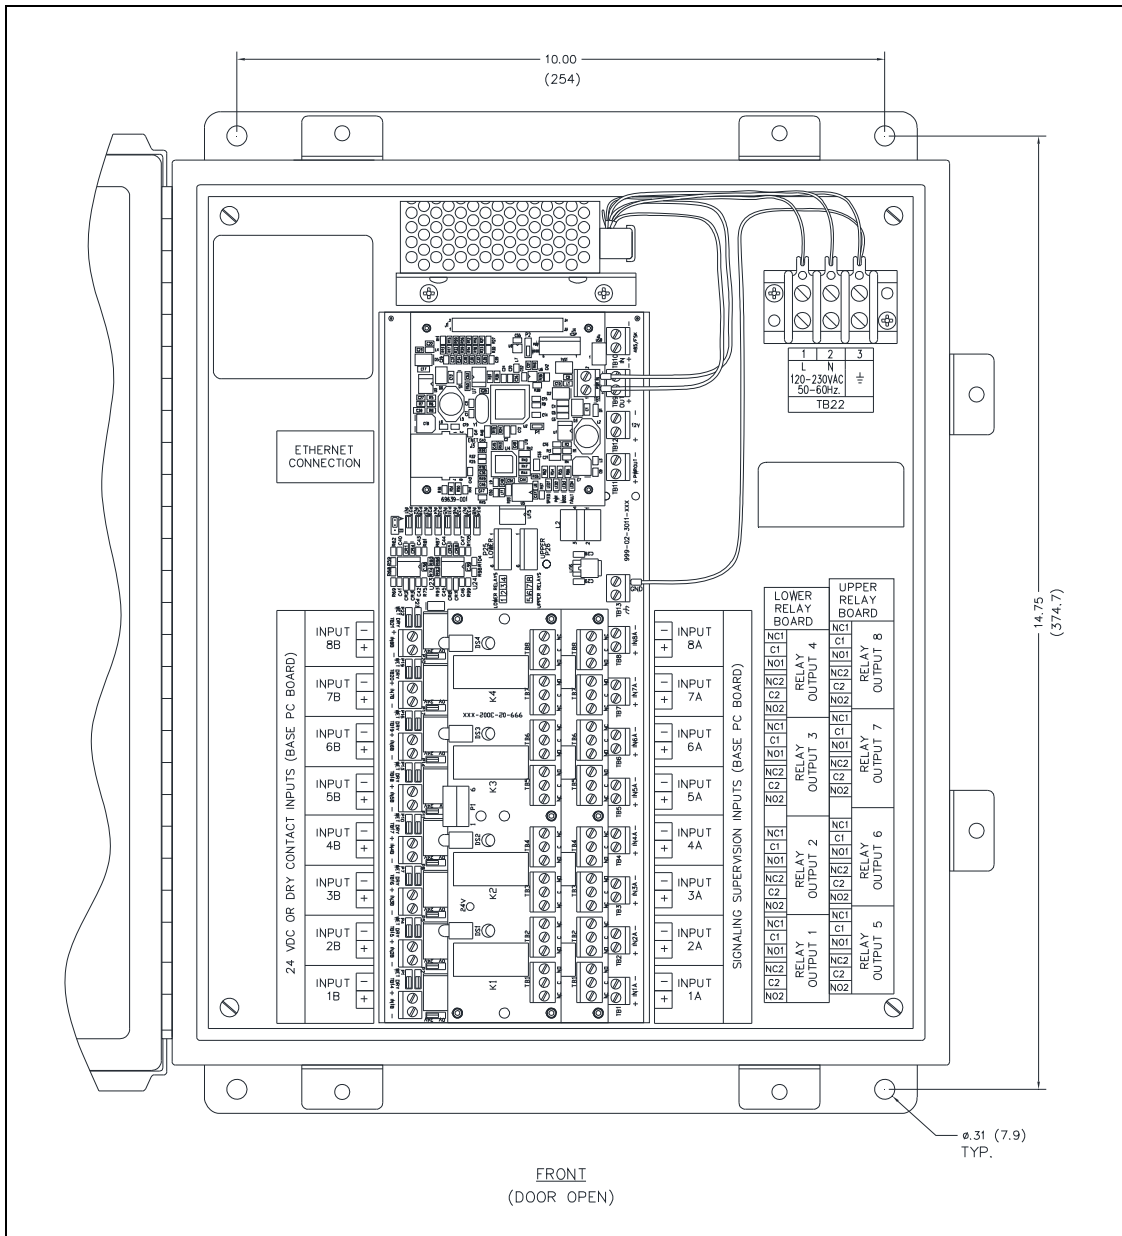

Figure 1. Model 379-003 E3 IP MRM Station (Interior View)
The No. 030-02-0099-008 E3 IP MRM has four components (see Figure 1):
2. Mount the enclosure to a suitable surface using appropriate (customer-supplied) hardware (see Figure 1 for mounting hole dimensions).
Connect 120 to 230 V ac power to terminal block TB22, at the top of the panel (see Figure 1).
Plug the Category 5 or better Ethernet cable with RJ45 plug from the E3 network into the RJ45 jack, located on the CPU PCBA (see Figure 1).